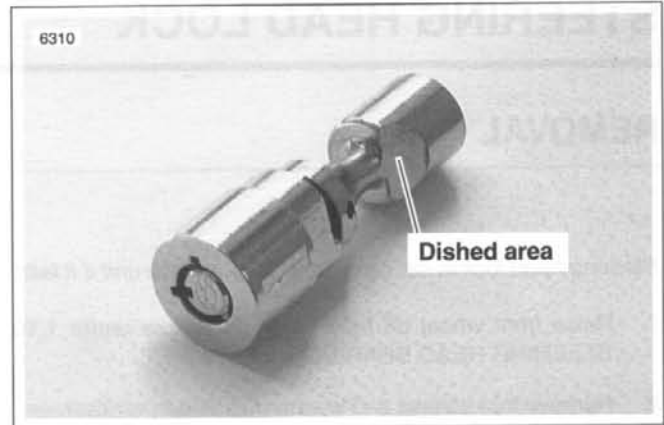

Figure 2-110. Steering Head Lock
- a. See Figure 2-110. Dished area of steering head lock faces front wheel.